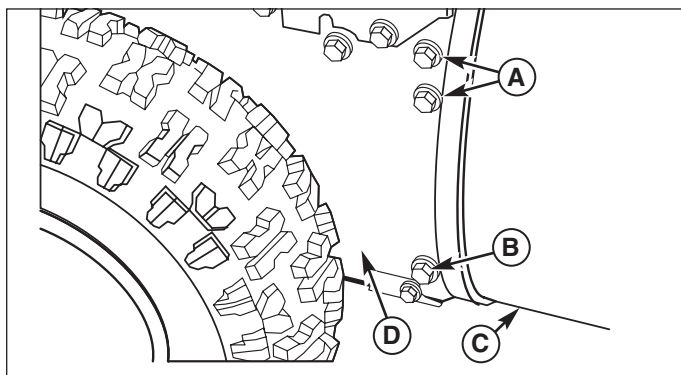

Figure 17. Frame and Axle Housing Splitting
12. Remove the upper four capscrews (A, Figure 17) that hold together the auger housing (C) and the frame (D). Loosen the lower two capscrews (B). The auger housing (C) and the frame (D) can now be split apart for removal of the belt.
15. Assemble the auger housing (C, Figure 17) to the frame with the four upper taprite screws (A) that were removed in step 12. Tighten the two lower taprite screws (B). Tighten all taprite screws to 40-50 lb-in (4,5-5,6 Nm).